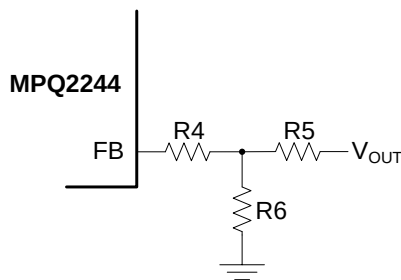

Figure 3: Feedback Network
The external resistor divider connected to FB sets V_{OUT} (see Figure 3). The feedback resistor (R4) must account for both stability and dynamic response, so it cannot be too large or too small. R5 is estimated to be 100kΩ. R6 can be calculated using Equation (2):
Using a T-type feedback network is strongly recommended (see Figure 3).